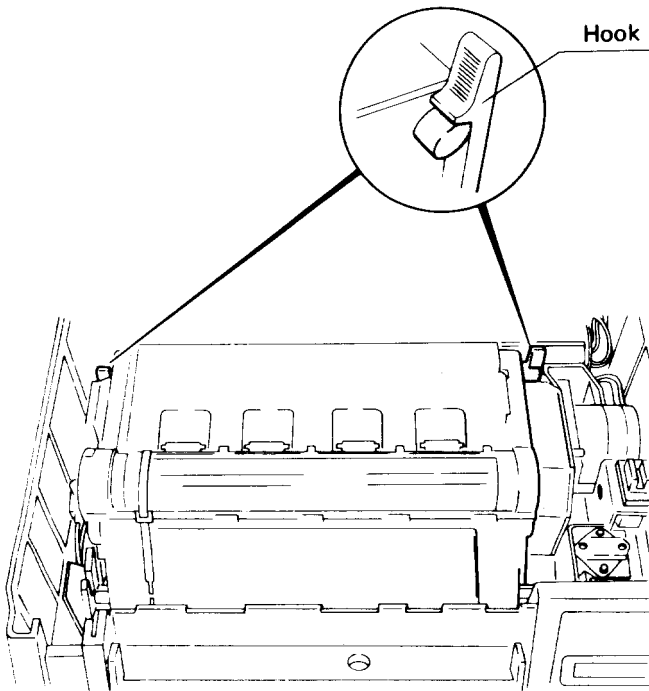

Figure 2-6 Locking the process cartridge into place
- e. When the pins reach the bottom of the grooves, press down on the handles until both retaining clips snap the process cartridge into its locked position. See Figure 2-6.